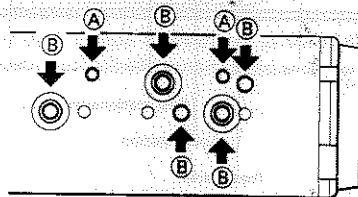

Fig. 3
For the screw holes marked (A) in Fig. 3, use  $4 \times 8$  mm screws. For the screw holes marked (B), use  $5 \times 8$  mm screws. (Fig. 4)